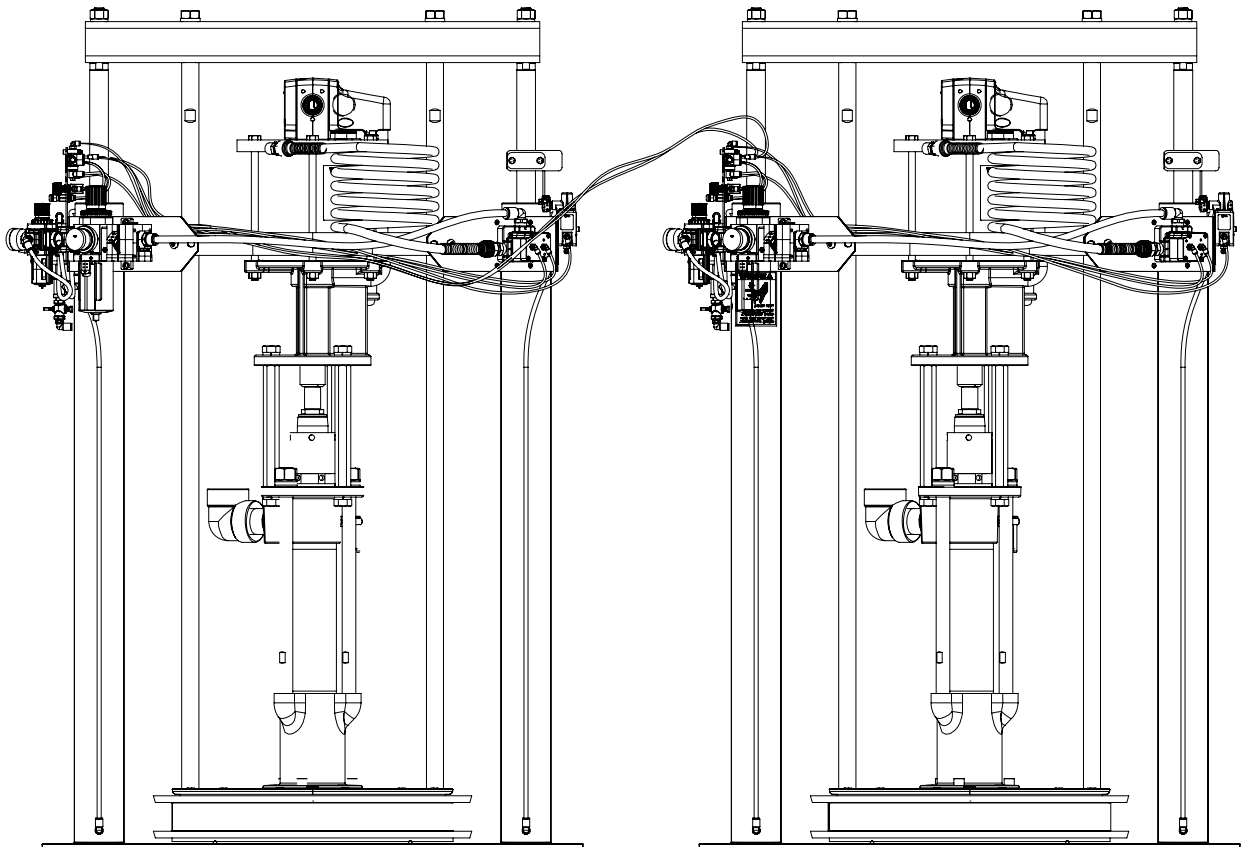

Figure 5
1. Install Cross-Over Controller assembly (67448) for RM552H-XXX-XX, RM552S-XXX-XX, RM052S-XXX-XX and RM072S-XXX-XX Rams. (see Figures 5 & 7, pages 4 & 6).